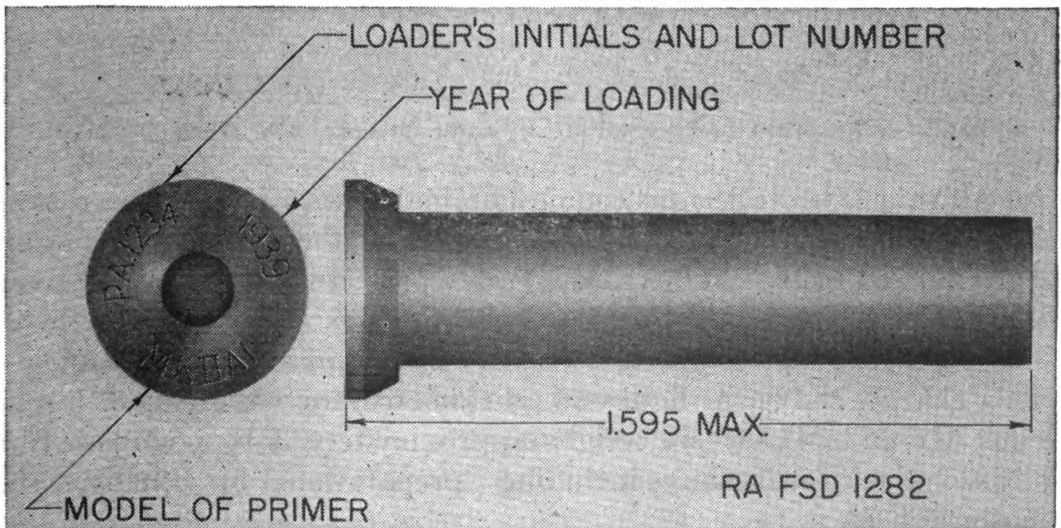

FIGURE 58.—Primer, percussion, 21-grain, Mk IIA1.
**75. Primers (separate loading ammunition).—***a.* Primer, percussion, 21-grain, Mk. IIA1 (fig. 58) is standard for use in the 155-mm guns and howitzers. It consists of a brass case containing a percussion element and 21 grains of black powder. The percussion element in the head of the primer contains a sensitive explosive and should be protected from any blows which might cause accidental functioning.